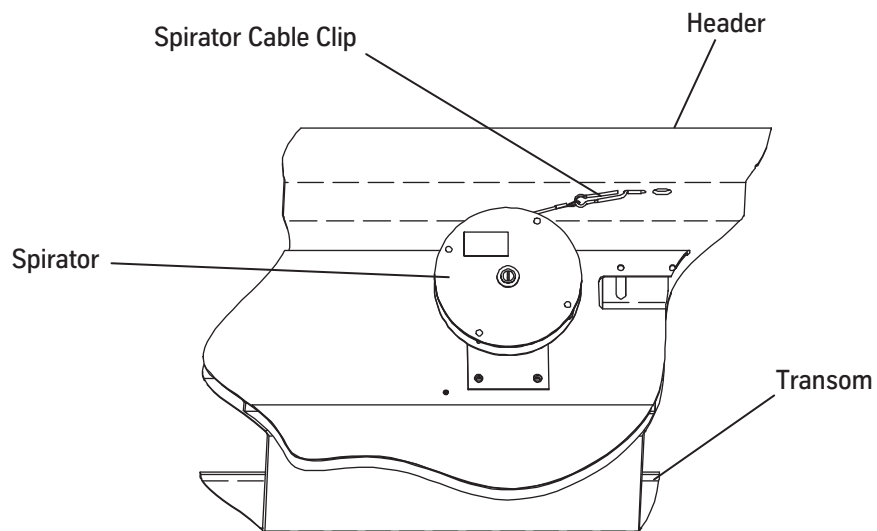

Figure 16 - Spirator
2. Use the spirator cable clip to attach the cable to the header. See Figure 16.